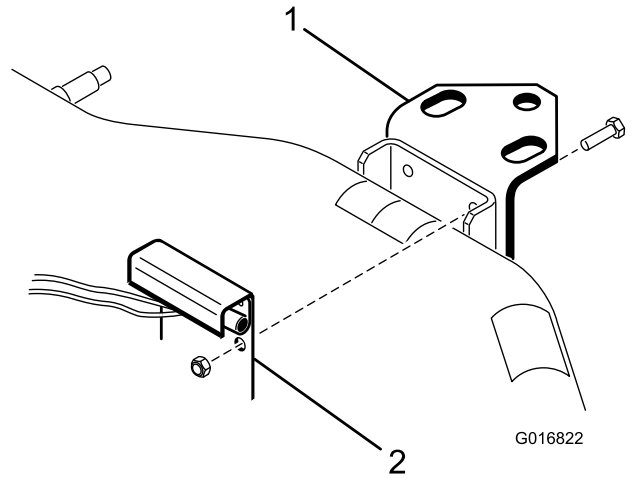

Figure 6
1. Remove the locknuts securing the top of the hitch plate to rear axle (Figure 6). Using the upper set of